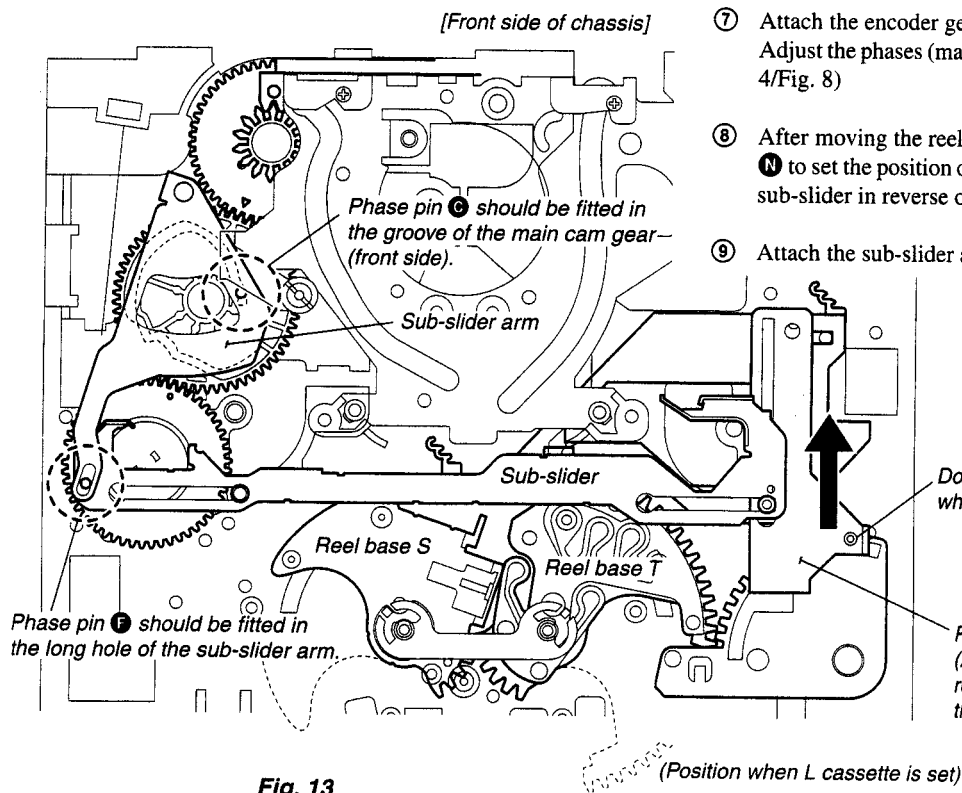

Fig. 13
- ⑧ After moving the reel selector slider in the direction of arrow N to set the position of the reel base to "L cassette", attach the sub-slider in reverse order while referring to Fig. 3. (Fig. 13)
- ⑨ Attach the sub-slider arm. (Fig. 1/Fig. 13)